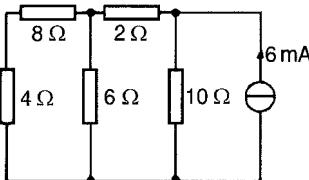

Figure 13.63
- Determine the current flowing in the 6Ω resistance of the network shown in Fig. 13.63 by using Norton’s theorem. [2.5 mA]